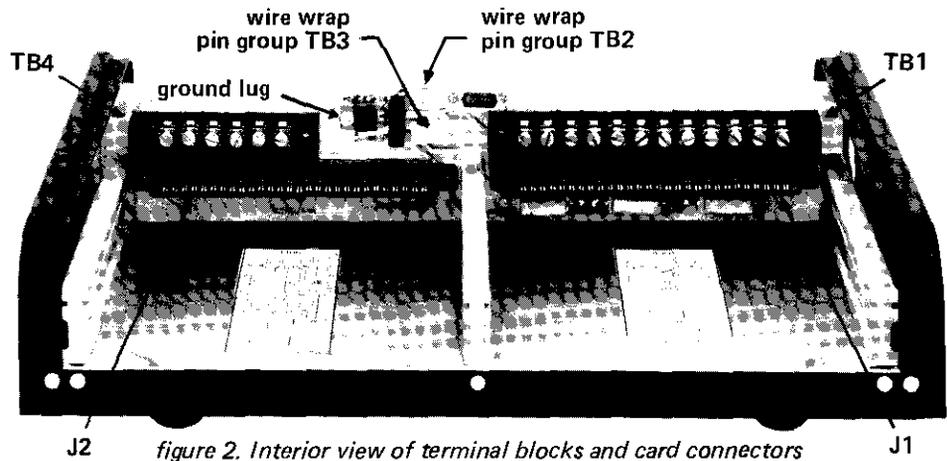

figure 2. Interior view of terminal blocks and card connectors
Note: *When making these and all other connections to the 265A Assembly, run all wiring through the grommeted access hole. Refer to the 265A wiring diagram (section 5) and the view of the 265A Assembly showing the terminal blocks (figure 2) for wiring details.*
3.04 Connections from the associated telephone set to the 265A Assembly are made to terminals 1 through 8 of terminal block *TB1*, the 12-terminal block on the Assembly's printed circuit board (see figure 2). *TB1* has wire-wrap terminals on one side of the printed circuit board and screw terminals
Assembly's power supply, a lead must be connected from terminal 6 of TB4 to the loudspeaker. Finally, a loudspeaker ground lead must be connected to terminal GND or the positive (+) terminal of wire-wrap pin group TB3 or to chassis ground. Refer to figure 2 and the System wiring diagram (section 5) as necessary.